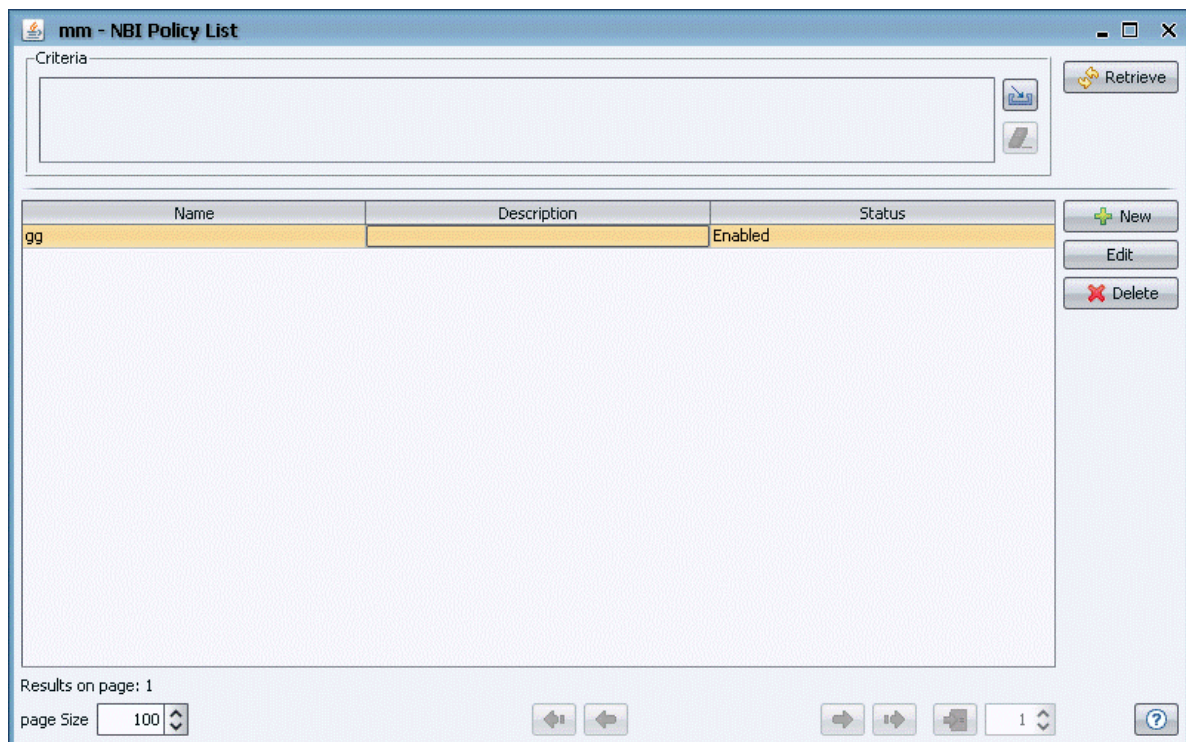
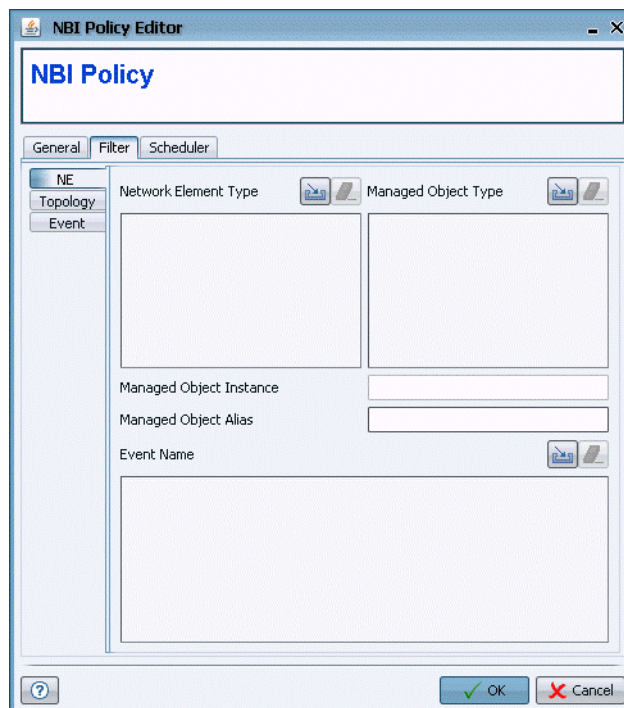

Figure 3-25: NBI Policy List
Figure 3-27: NBI Policy Editor - Filter Page: NE
- 1 From the NBI Policy window (Figure 3-25), click **New** to define a new NBI policy, or select an entry from the list and click **Edit**. The NBI Policy Editor window is displayed (Figure 3-27).
The NE page (Figure 3-27) lets you enter the following filter criteria:
- 1 In the NBI Policy List window (Figure 3-25), select the policy to remove and click **Delete**. A confirmation message is displayed.